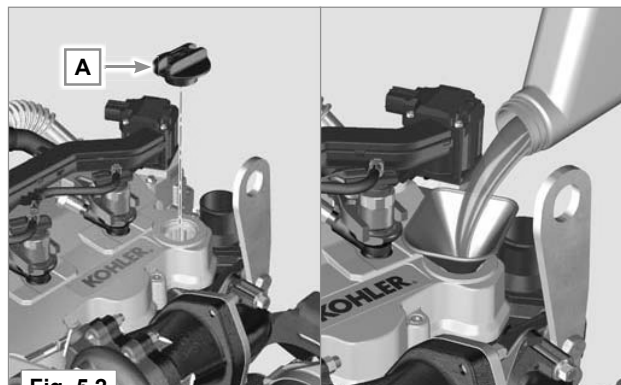

Fig. 5.2
- 4 - Re-tighten the cap **A** (Fig. 5.2).